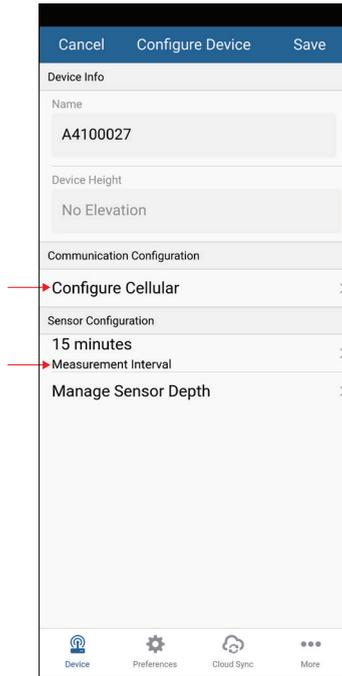

Figure 5 Configure Device information screen
The **Configure Device** screen will appear (Figure 5).
4. **OPTIONAL** Change device name (Figure 5).
5. **OPTIONAL** In the **Configure Device** window, set the measurement interval to the desired interval (Figure 5).
7. **OPTIONAL** In the **Communication Configuration** section of the **Configure Device**, select **Configure Cellular** (Figure 5).